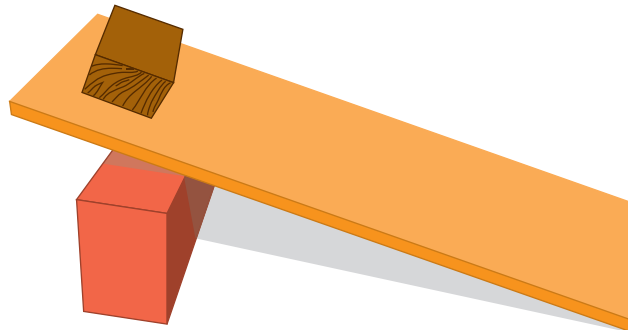

Figure 2
5. Place a small wooden block or object with a flat edge at the top of the inclined plane (see Figure 2). Have your partner start the stopwatch at the instant that you release the block and stop the stopwatch when it hits the floor or table at the bottom of the ramp. Record the time on the data table in the row labeled “no lubricant.”